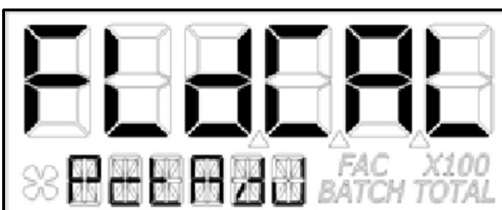

Figure 26-3
**Percent Adjust** method is a field calibration method by which the user will enter a percentage amount to adjust K-factor values in the factory programmed K-factor table. Once the percentage is input by the user, the software will apply this percentage adjustment to all calculated and displayed values. (See Figure 26-3)